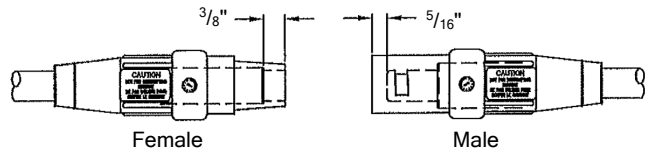

Figure 14
14. Check the final position of the contact within the Cam-Lok sleeve. See Figure 14.